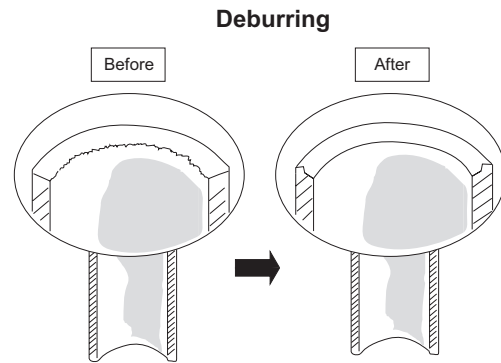

Fig. 2-242
- (1) Cut the copper tube to the required length with a tube cutter. It is recommended to cut approx. 30 – 50 cm longer than the tubing length you estimate.
- (2) Remove burrs at each end of the copper tubing with a tube reamer or file. This process is important and should be done carefully to make a good flare. Be sure to keep any contaminants (moisture, dirt, metal filings, etc.) from entering the tubing. (Figs. 2-242 and 2-243)